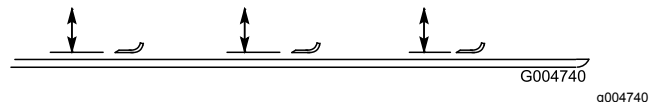

Figure 128
2. Rotate the blade until the ends face forward and backward and measure from the inside of the cutting unit to the cutting edge at the front of the blade (Figure 128).